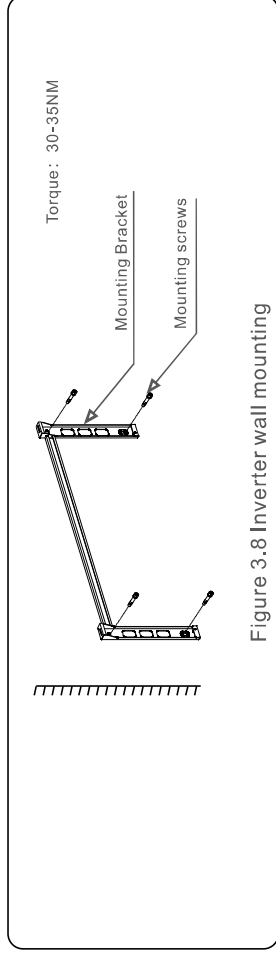
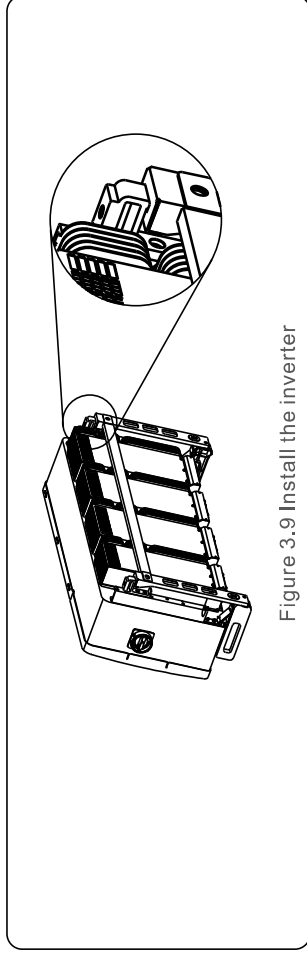

Figure 3.8 Inverter wall mounting
Figure 3.9 Install the inverter
Refer to figure 3.8 and figure 3.9 Inverter shall be mounted vertically.
1. Refer to Figure 3.8, drill holes for mounting screws based on the hole diameter of bracket using a precision drill keeping the drill perpendicular to the wall.
2. Make sure the bracket is horizontal. And the mounting holes (in Figure 3.8) are marked correctly. Drill the holes into wall at your marks.